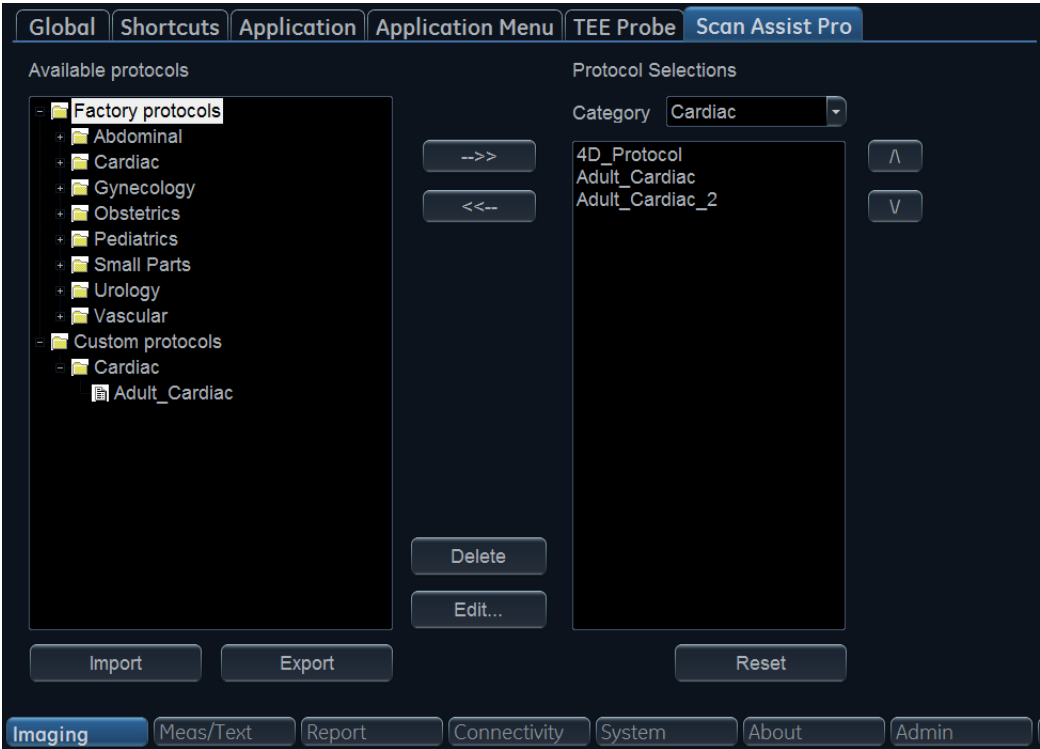

Figure 5-26. The Scan Assist Pro sheet
1. Select the desired **Category** under Protocol Selections on the right-hand side of the *Scan Assist Pro* sheet (Figure 5-26 on page 5-70).